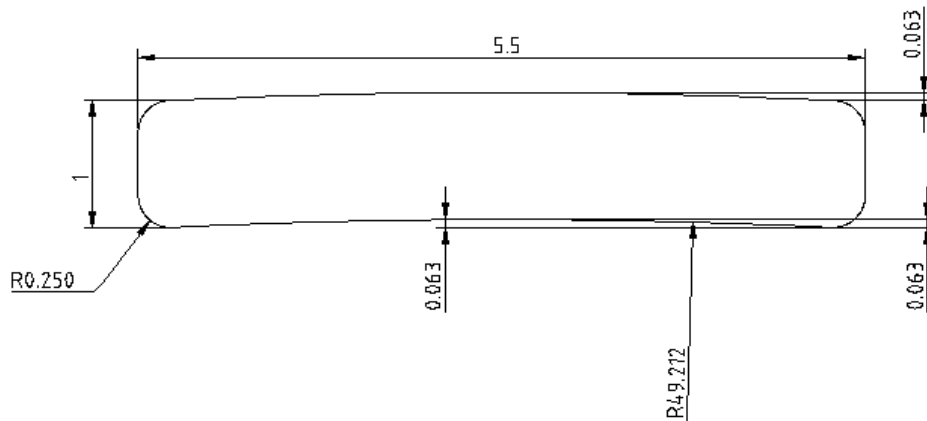

FIGURE 1 – VEKADECK™ DIMENSIONS
3.2 Profiles - *VEKAdeck™ Decking Planks* have a solid cross-section with nominal dimensions of 1 inch thick by 5-1/2 inches wide. See Figure 1.